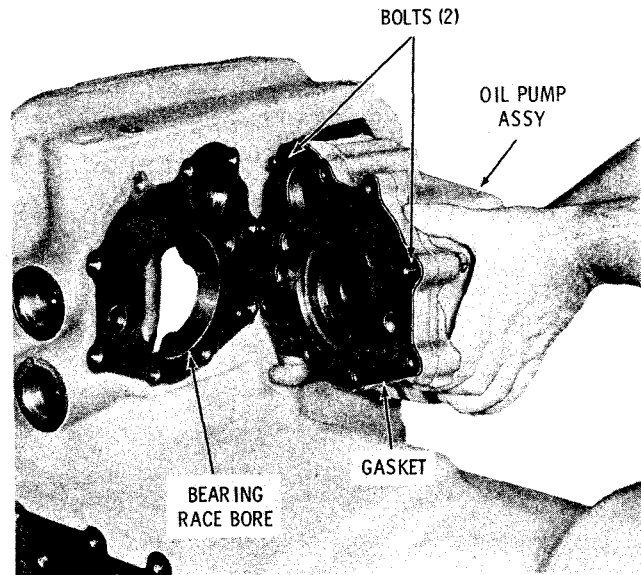

Fig. 7-26. Installing oil pump assembly and gasket
(1) Install the gasket onto the oil pump (as assembled in para 6-8) and install the oil pump (fig. 7-26). Retain the pump with seven 3/8-16 x 4-inch bolts 18 (A, foldout 8) and lockwashers 17 and two 3/8-16 x 2-inch bolts 20 and lockwashers 21. Leave the bolts slightly loose at this time. (It may be desirable to use two headless guide bolts to support the pump during installation.)
(2) Install bearing race 20 (B, foldout 3), inner lip side against the pump, into the bore indicated in figure 7-26.